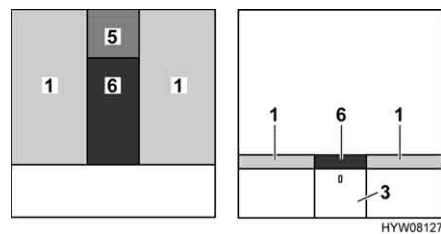

Fig. 69 After conversion
- Place the additional cushion (Fig. 69,5) on the bedside locker.
- Place the additional cushion (Fig. 69,6) between the mattresses (Fig. 69,1).